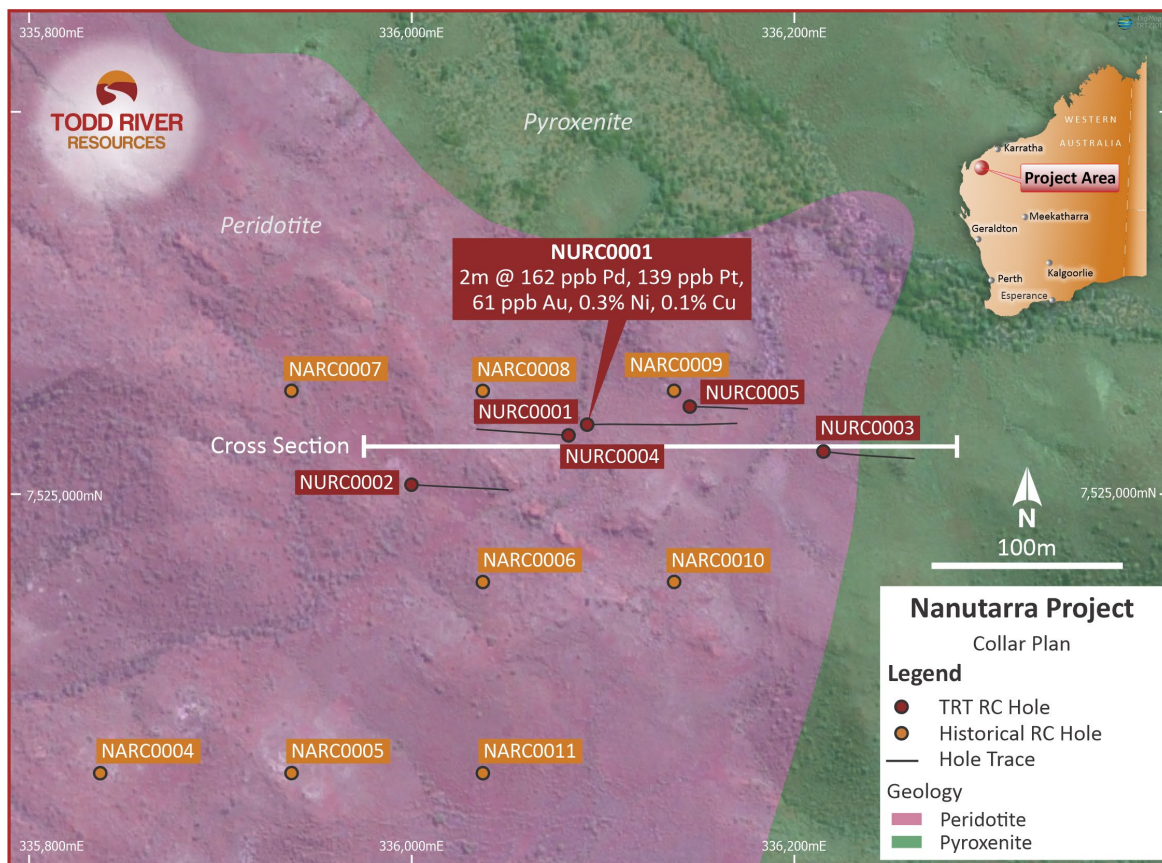

Figure 2 – Drillhole location plan
The Reverse Circulation (RC) drilling program that was completed in September was designed to follow up historic shallow drilling that intersected anomalous platinum (Pt) and palladium (Pd) near the base of oxidation in ultramafic rocks. In total five holes were drilled all of which intersected thick units of peridotite and/or pyroxenite with three of the five holes intersecting the contact between the units. The hole locations are shown in figure 2 and the collar table can be found in Table 1.